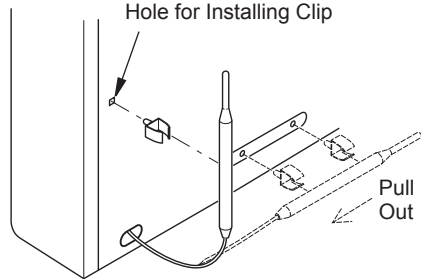

Figure 5 - Moving Thermostat Sensing Bulb
2. Take out the bulb clip from the hardware package and insert it into the square hole. Insert the sensing bulb into the bulb clip (see Figure 5).